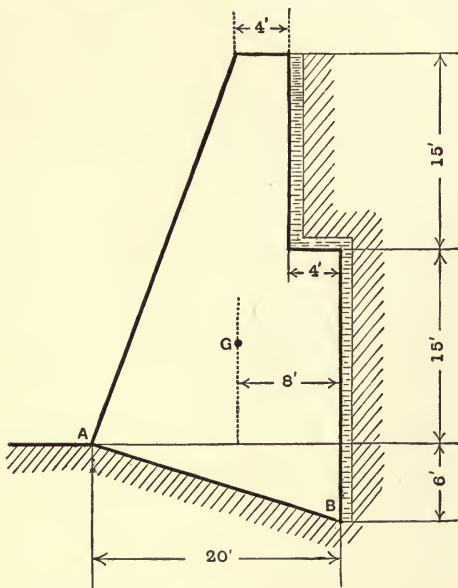

Fig. 1.
2. Water is found to have gathered behind the reservoir wall as shewn in fig. 1. Determine the point in  $AB$  at which